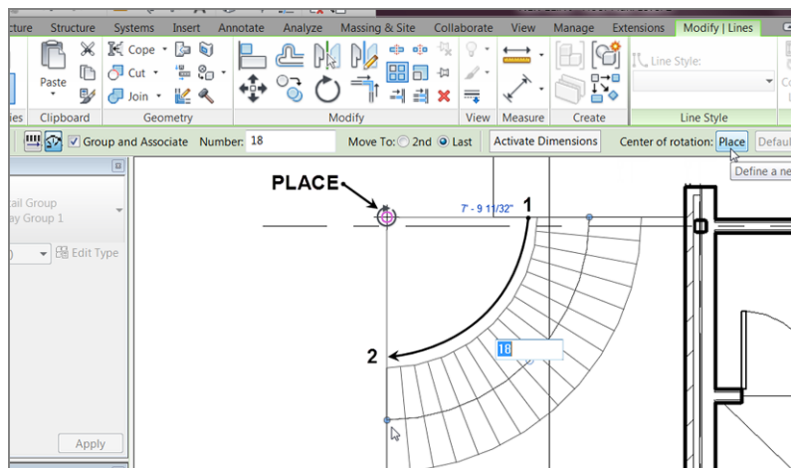

FIGURE 10.40: Arraying the line to create your own treads
3. Select the line at the left end of the arcs, as shown in Figure 10.40.